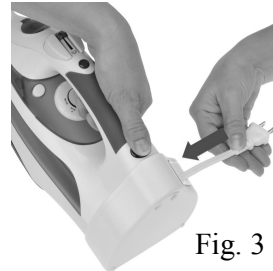

Fig. 3
- To rewind the cord, please hold the cord firmly in one hand while pressing and holding the “Cord Release” Button while guiding the cord into the storage area. Failure to hold the plug may cause plug to fly and hit you or objects/persons around you (See : Fig. 3)